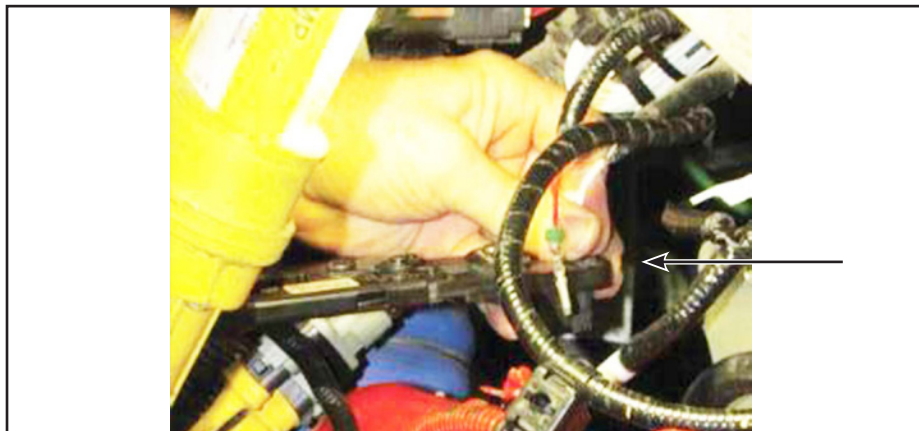

Figure 5 - Crimp the Assemblies
- 1.9. Crimp the assemblies. See Figure 5.